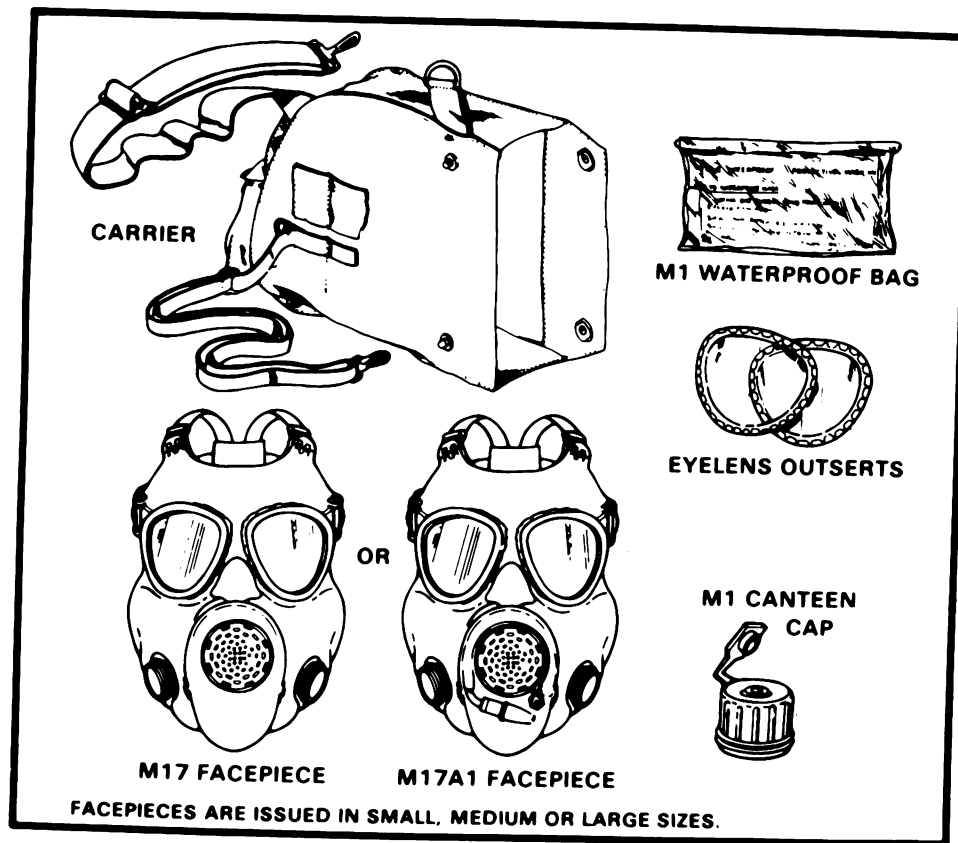

Figure 1. Protective mask and components.
- a. Remove the mask from the carrier and check to insure that all components are present (fig 1). Insure that accessories authorized by your unit SOP are present (fig 2). Inform your supervisor if any components or accessories are missing.